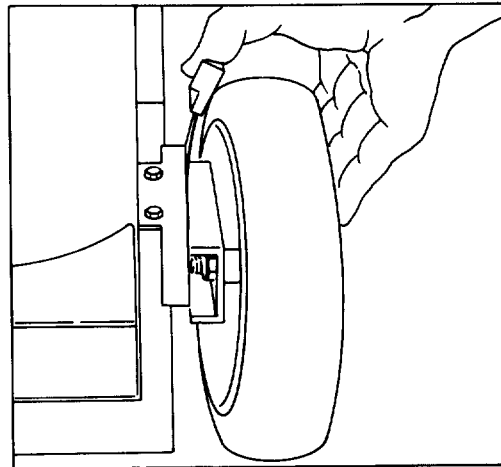

Figure 12
2. For easier adjustment, lift housing up so wheel is off ground. Do not place hands under deck when lifting. Squeeze adjusting lever toward wheel and move them to desired setting (Fig. 12). Assure pin on adjusting lever engages notch in mower housing wear plate. Adjust all wheels the same setting.